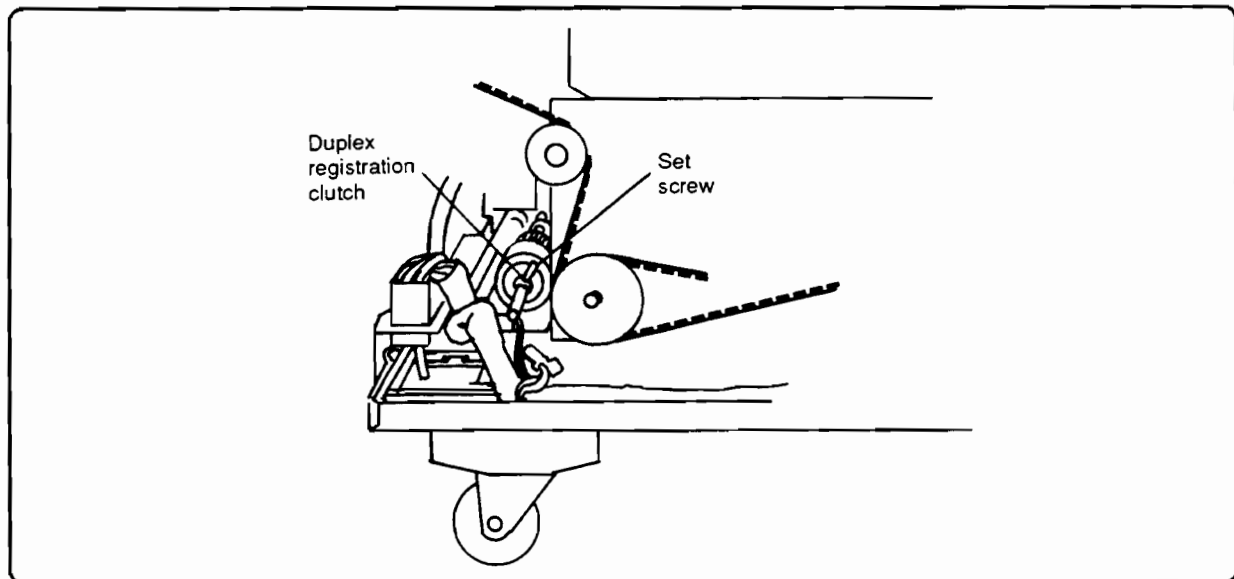

Figure 6-164. Duplex Registration Clutch
1. Remove the set screw on the clutch collar (Figure 6-164).